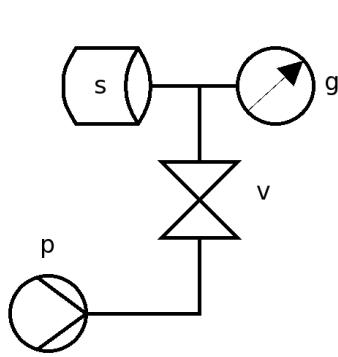
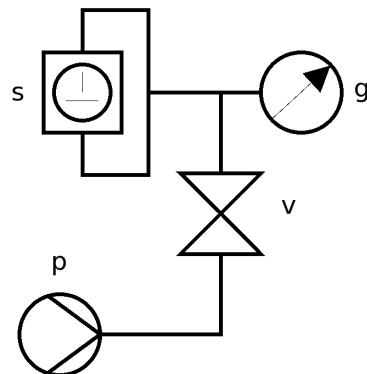

Figure 5.21: Vacuum rise schematic:  $s$  is the system to check;  $g$  is a pressure gauge;  $v$  is a leak-tight manual valve;  $p$  exhausts to atmosphere.
Figure 5.22: The same as Figure 5.21 except  $s$  has two ports, the inlet and exhaust of a pump, in this case.
1. Set up as shown in Figure 5.21 or Figure 5.22. If the system is powered (such as a pump), make sure it is unplugged.